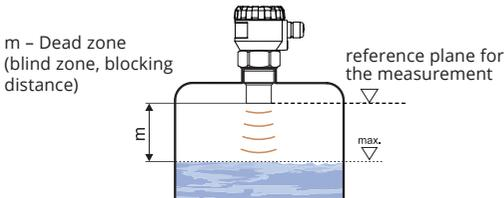

Fig. 2: Level meter dead zone
- The reference plane for the measurement is the lower edge of the transducer (Fig.2). In connection with the measurement principle, no signals **reflected** in the area immediately under the level meter can be evaluated. **The zone** (Fig. 2) determines the min. distance possible between the level meter and the highest surface level. The min. distances to the medium are given in the chapter "Specifications".